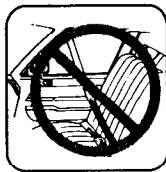

Figure 8.
- 6). **AUTOMATIC (PASSIVE) SEAT BELTS** (Fig. 8). **Do not** use this type of vehicle belt system to anchor your booster car seat. See your dealer for options.